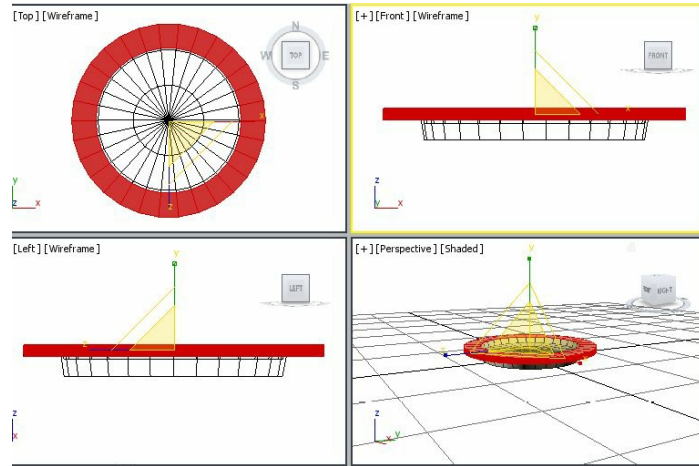

Figure 10-65 The selected polygons moved and scaled
5. Choose the **Select and Move** tool and move the selected polygons upward and then scale them, as shown in Figure 10-65.